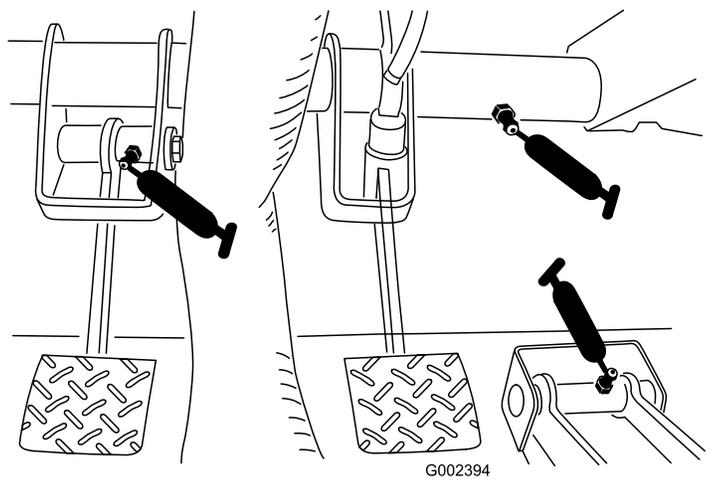

Figure 42
- Clutch (1), accelerator (1), brake (1) (Figure 42)